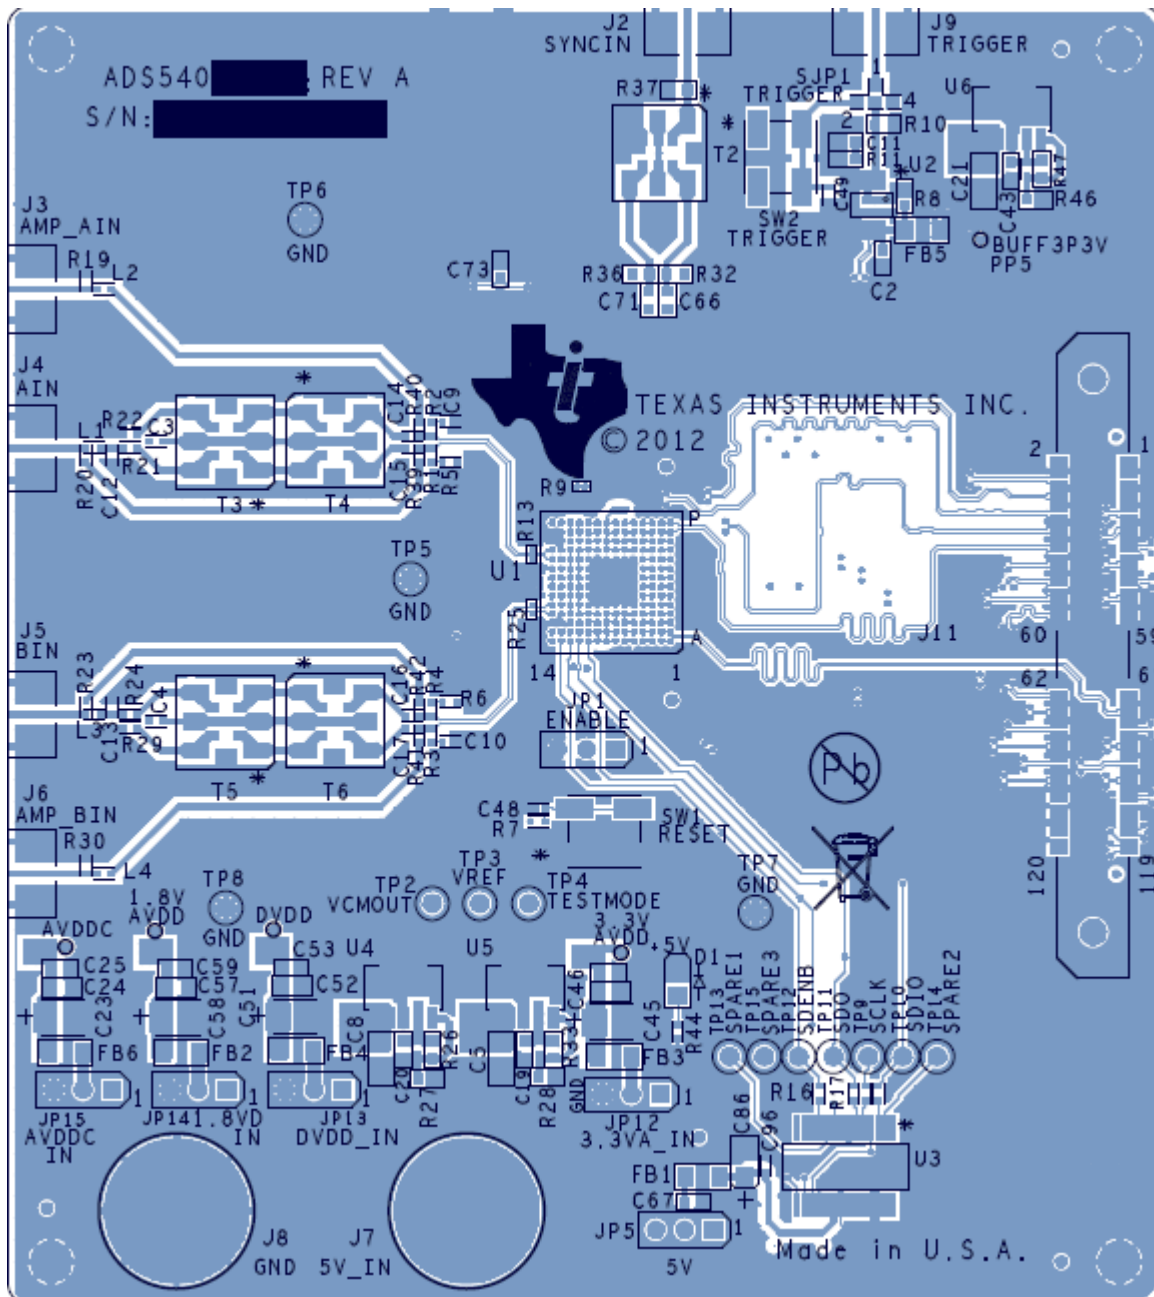

Figure 65. Top Layer
The Device EVM layout can be used as a reference layout to obtain the best performance. A layout diagram of the EVM top layer is provided in Figure 65. Some important points to remember during laying out the board are:
- Analog input is located on opposite sides of the device pinout to ensure minimum crosstalk on the package level. To minimize crosstalk on-board, the analog input should exit the pinout in opposite directions, as shown in the reference layout of Figure 65 as much as possible.